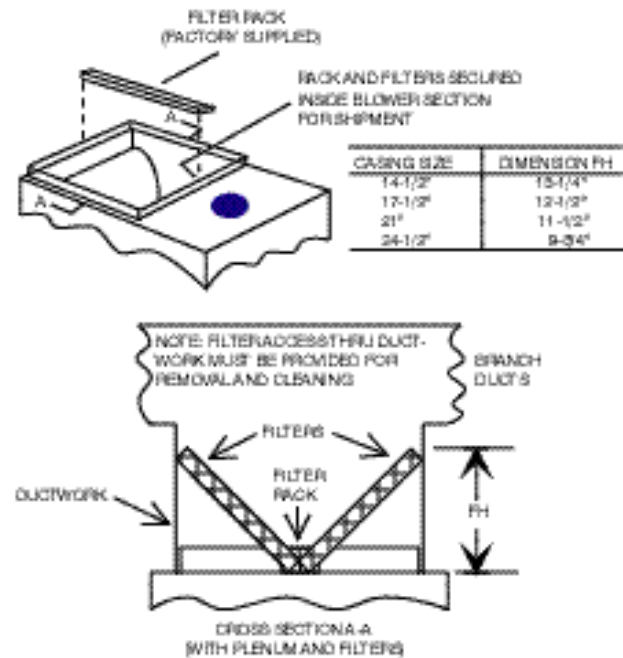

FIGURE 8 : DOWNFLOW FILTERS
Any branch duct must attach to the vertical ductwork above the filter height (FH). See dimensions for proper installation. Refer to Figure 8.